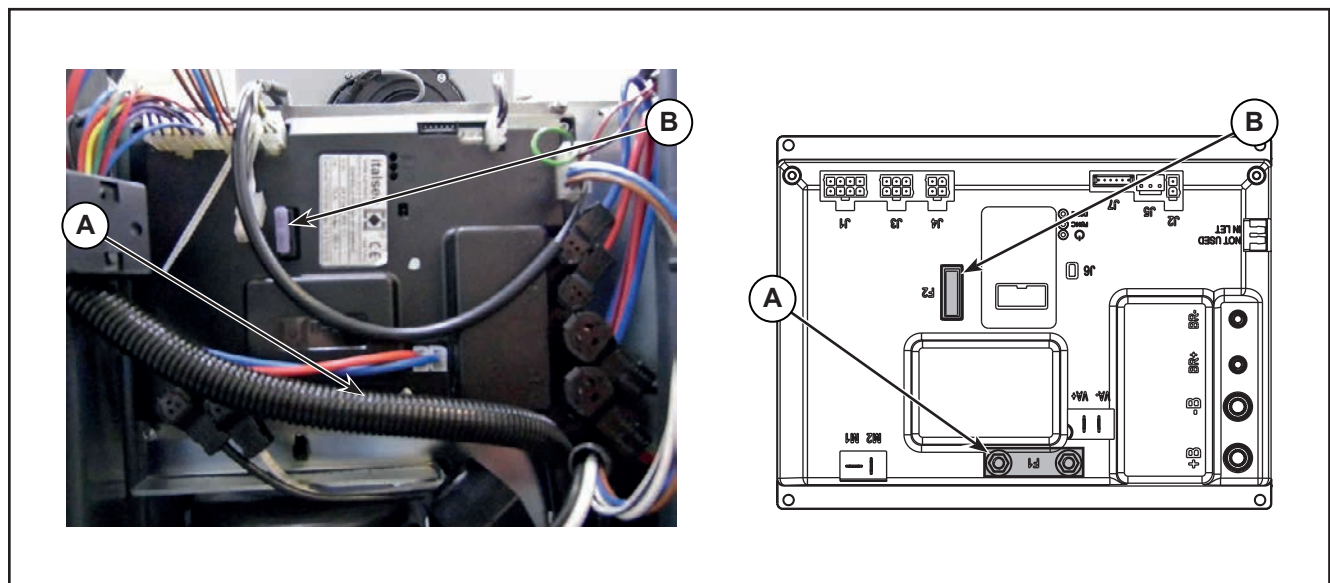

Figure 9:
6. Check/replace the following fuses (Figure 9):
- (F1) 100A midi fuse - Main machine controller (A).
- (F2) 3A blade fuse - Signal circuits (B).